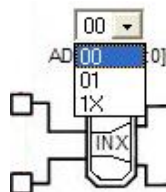

Figure 44
- (1) Network is switchable by clicking mouse left key, 3 types are selective
- (2) Figure 44 will show up by clicking mouse left key, then users can select the switch network